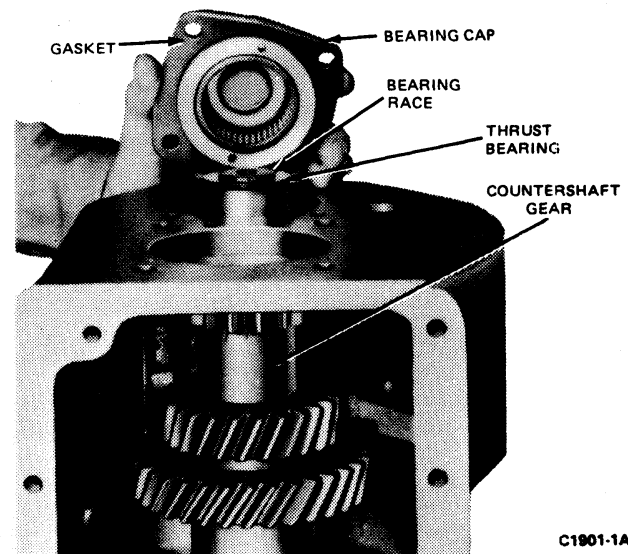

FIG. 8 Removing or Installing Countershaft Rear Bearing
12. With the front of the transmission in the downward position, remove the attaching bolts from the countershaft gear rear bearing cap. Tap the cap with a soft-faced hammer to free it from the case. Remove the cap, race thrust bearing, and gasket (Fig. 8). Lift the gear from the case.
5. Place the rear thrust bearing and then the bearing race on the rear of the countershaft gear (Fig. 8).